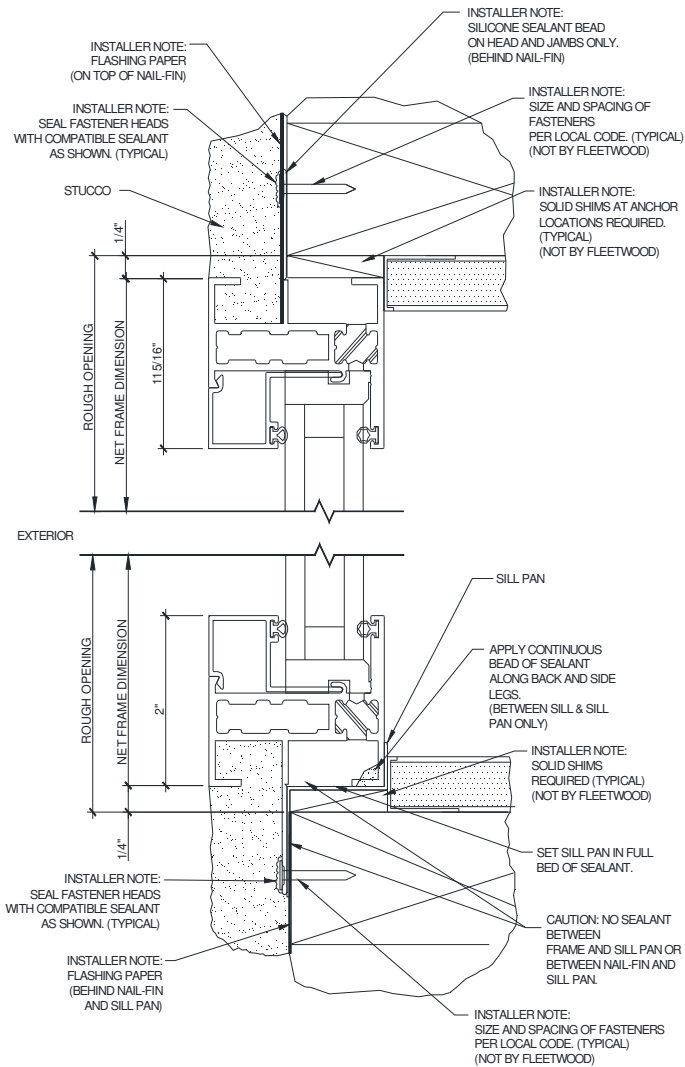

Figure 8:
- Apply a continuous bead of sealant along the back and side legs between the sill and sill pan (Figure 8, page 7) and insert the frame into the opening. Cross-measure and adjust as necessary to achieve a plumb square and level condition, as well as an even reveal around the framed opening. Shim with non-porous, non-absorbent, inorganic shims where needed. Seal all fastener heads with compatible sealant. (Only drill holes through Sill as required for design load)